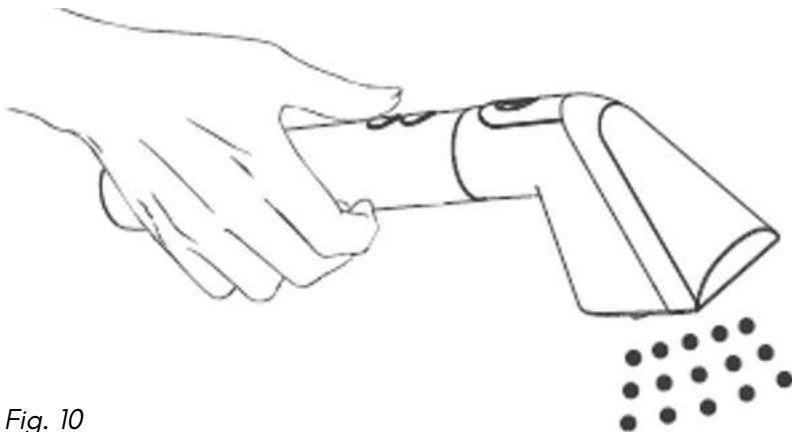

Fig. 10
8. During working process, when need to spray water or release steam, hold and press the water spray/steam button on the handle of brush to enter into the working status of spraying water or releasing steam. To exit from the current working status, release the water spray/steam button (see Fig.10).